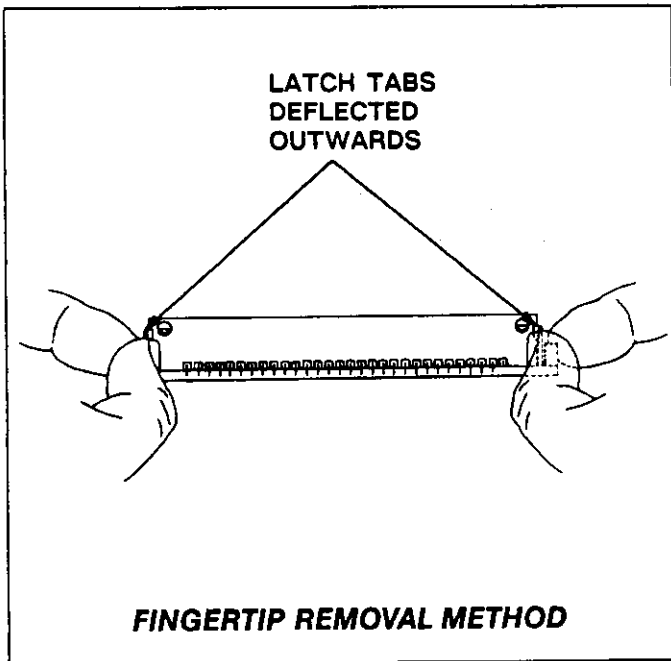

Fig. 4 89-126
A. Fingertip Removal Method (Figure 4)